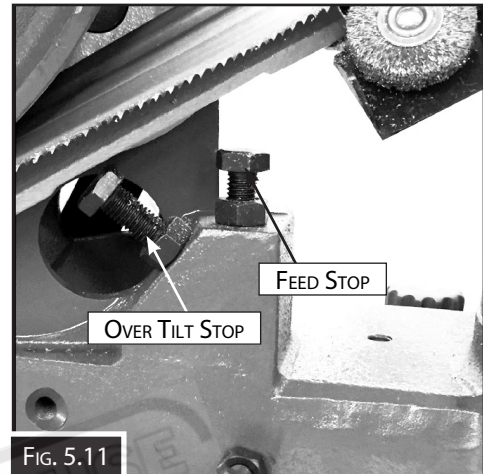

FIG. 5.11
2. Release the lock nut on the Feed Stop bolt.(Fig.5.11)
4. Check that the "0" head stop is hard up against the stop pin. If there is a gap between the pin (Fig. 5.11) and the stop screw, then loosen the lock nut and adjust the stop bolt until it rests against the pin.